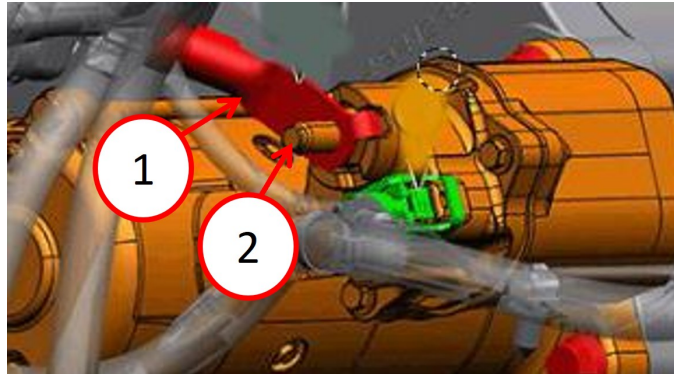

Fig. 1
3. Remove the B+ cable nut and the B+ cable from the starter stud (Fig. 1) . **Discard the nut.**
4. Using the new B+ cable nut, install the B+ cable on the starter stud (Fig. 1) . Tighten the B+ cable nut to 18 N·m (13 ft. lbs.).